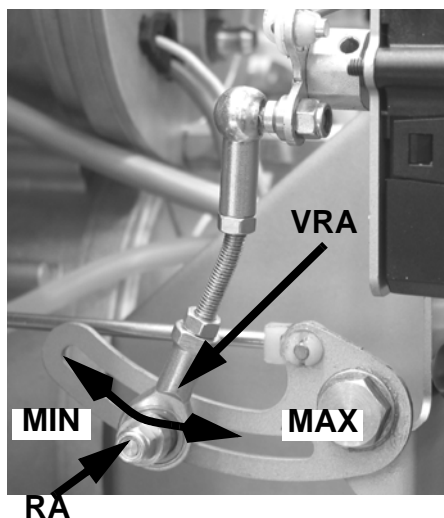

Fig. 14
- 13 The comburent air adjustment must be performed by means of the servocontrol. The servocontrol rotation must be equal to 90° (page 23). The air damper's opening in the high flame stage is imposed by the adjusting cam on Fig. 14. To adjust the air flow rate, slacken the nut **RA** (Fig. 14) and move the lever **VRA** through the slot as shown in Fig. 14, to increase or decrease the air rate, until the desired rate is obtained; lock then the nut **RA** in this position.